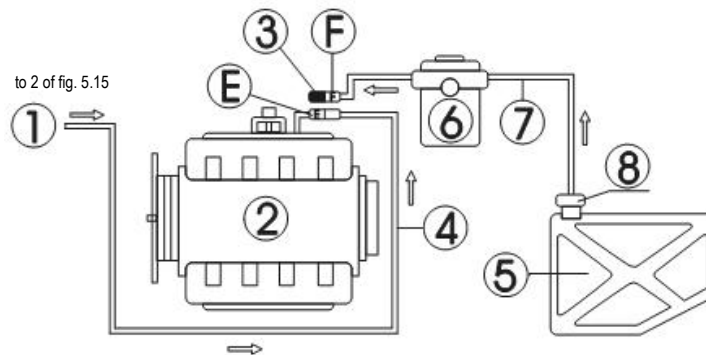

Figure 5.18 Line Connection 2
- 1) Disconnect the fuel supply hoses (E, F) of the engine fuel system (when disconnecting the fuel line connectors, cover them with towels), and then choose a suitable connector, connect it to the E end and reconnect the fuel outlet hose of the device. Hang the fuel return hose. See Figure 5.18.
- 2) Block the other end of the disconnected end (F) with a stopper (for fuel pump with fuel return function only) or remove the fuse of fuel pump or disconnect the power cable of engine fuel pump.